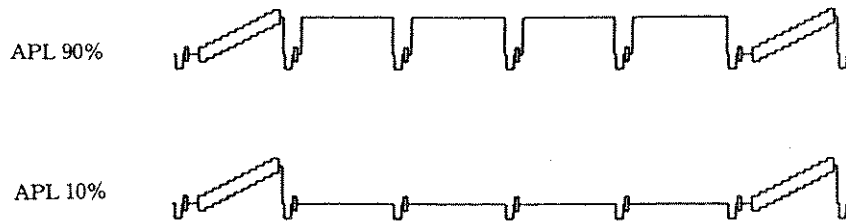

Figure 5.16
5.5.2 APL (See Figure 5.16 and 5.17)